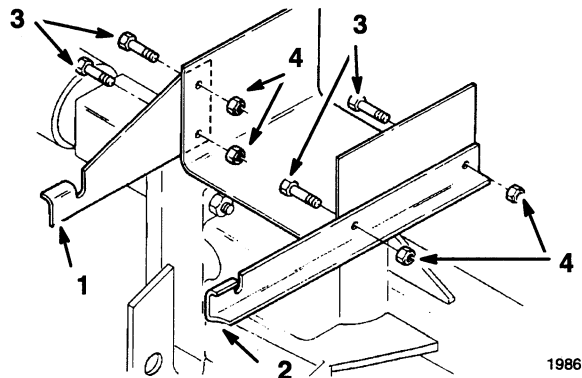

Figure 7
1. Remove (4) bolts and nuts from the rear of the tractor frame and discard (Fig. 7).
2. Mount the (2) support brackets against the tractor frame with (4) 5/16 x 3/4" bolts and 5/16" lock nuts (Fig 7). Wide bracket on the left side and narrow bracket on the right side.